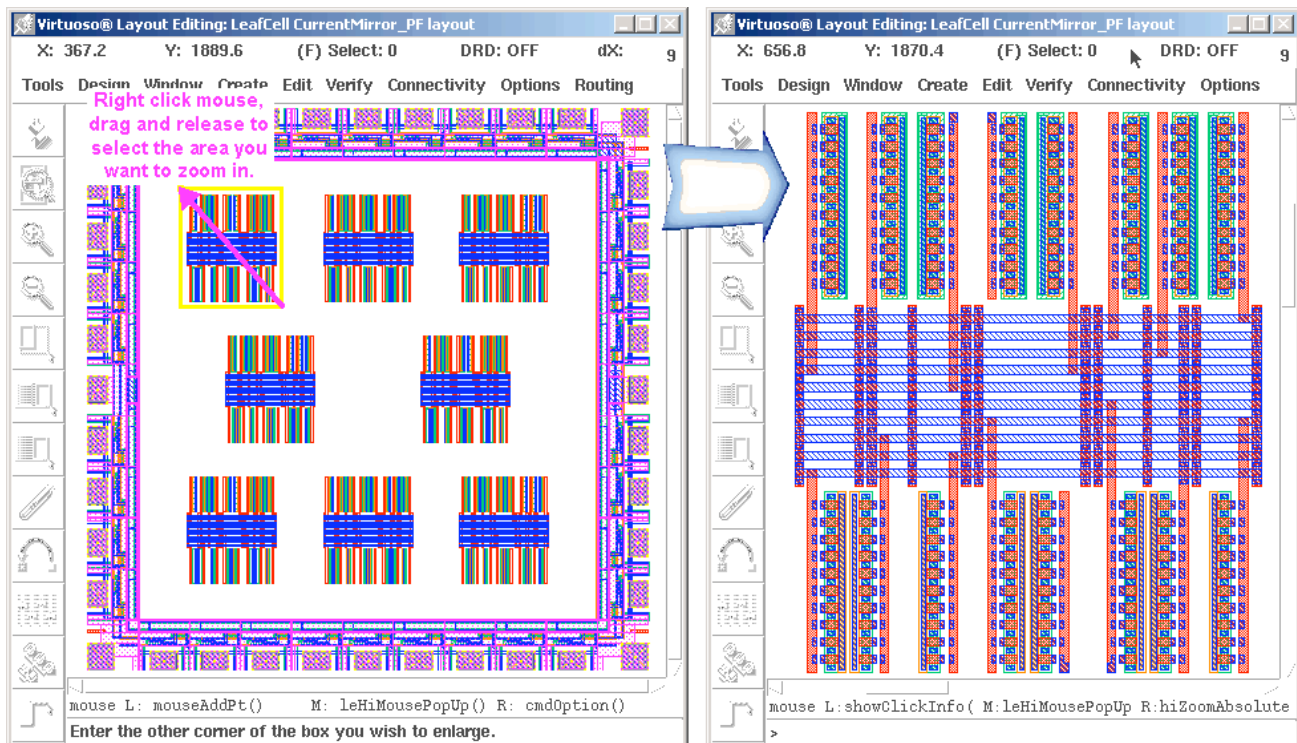

Figure 108: Add instance ALC_PF, and then zoom in to one of the leaf cell.
2. Go to *Create...Instance...* or just click at the “i” from the keyboard to add an instance called ALC_PF from library PADFRAME (Figure 108). Leave the window open.